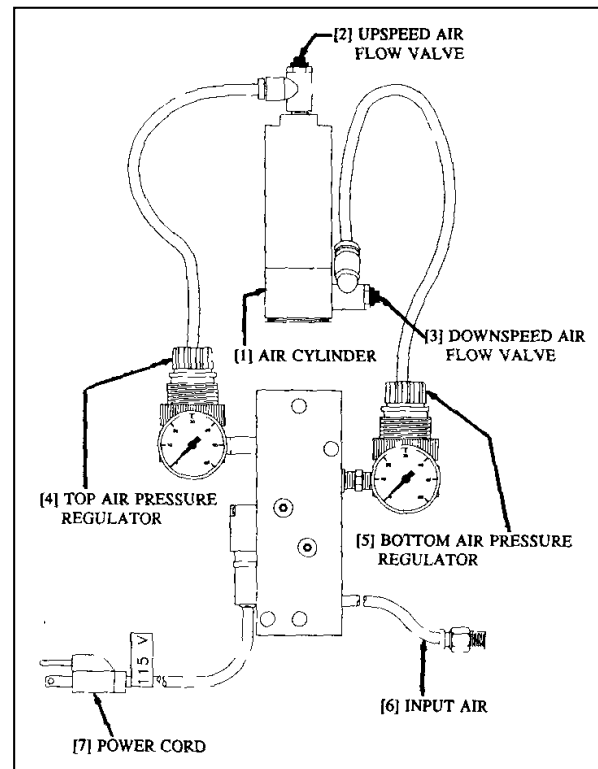

Figure 2-3. Solenoid Air Valve Assembly
- 5 Reference Figure 2-3 for the following instructions. Insert a 0.25 inch outside diameter plastic hose, with a rated burst pressure of 250 psi, into the AIR INPUT, item [6], located on the bottom of the Solenoid Air Valve Assembly. The AIR INPUT uses a "quick release" connector so special tools are not needed. Simply push the hose into the "quick release" fitting as far as it will go. Connect the other end to a FILTERED AIR SUPPLY (100 psig maximum). Amada Miyachi America suggests that in-line lubricators not be used since excess oil can blow-by worn seals in the AIR CYLINDER, item [1], ending up on the workpieces. Every one million cycles, the user should put a few drops of oil in the AIR CYLINDER. The tubing connecting the TOP AIR PRESSURE REGULATOR, item [4], with the UPSPEED AIR FLOW VALVE, item [2], and BOTTOM AIR PRESSURE REGULATOR, item [5], with the DOWNSPEED AIR FLOW VALVE, item [3], has been pre-assembled at the factory.